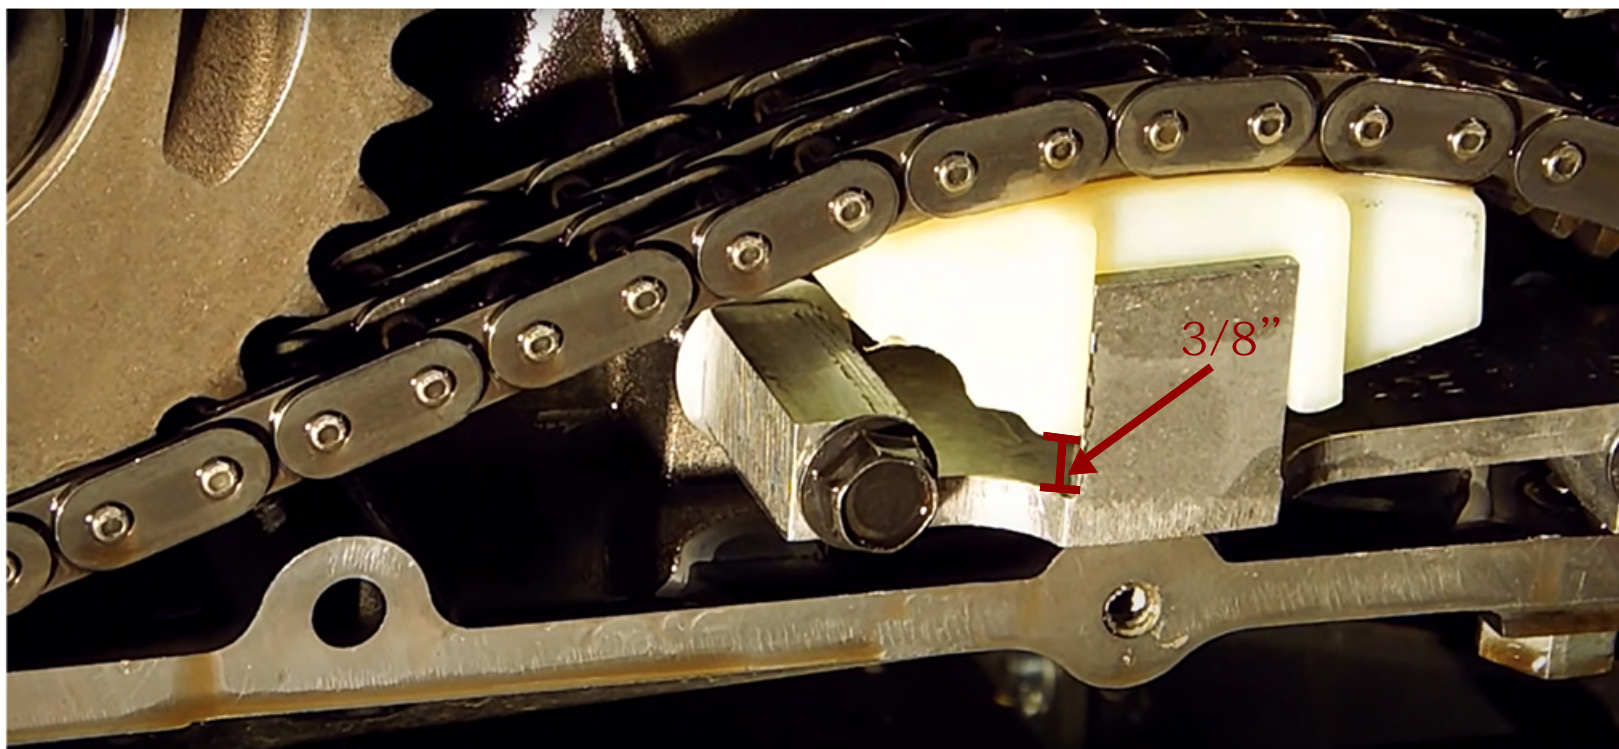

Figure 2
4. Using the two stock mounting bolts from the factory unit, mount the tensioner to the inner primary. Torque the bolts to spec as per your model owner's manual. Measure for the 3/8" spring compression area, from the bottom of the shoe to where the springs are setting on the guideplate. If this measurement is too loose, you will need to add a shim under the springs. Continue this process until the 3/8" measurement is reached. It is possible a new chain will reach the 3/8" measurement without using any shims. If you need more than the supplied shims, this may indicate that your primary chain is worn and should be replaced. See Figure 2.
1. The 3/8" is measured from the bottom of the shoe to the resting point of the springs on the guideplate, or shims (closest to the vertical bars). as the figure 2 shown